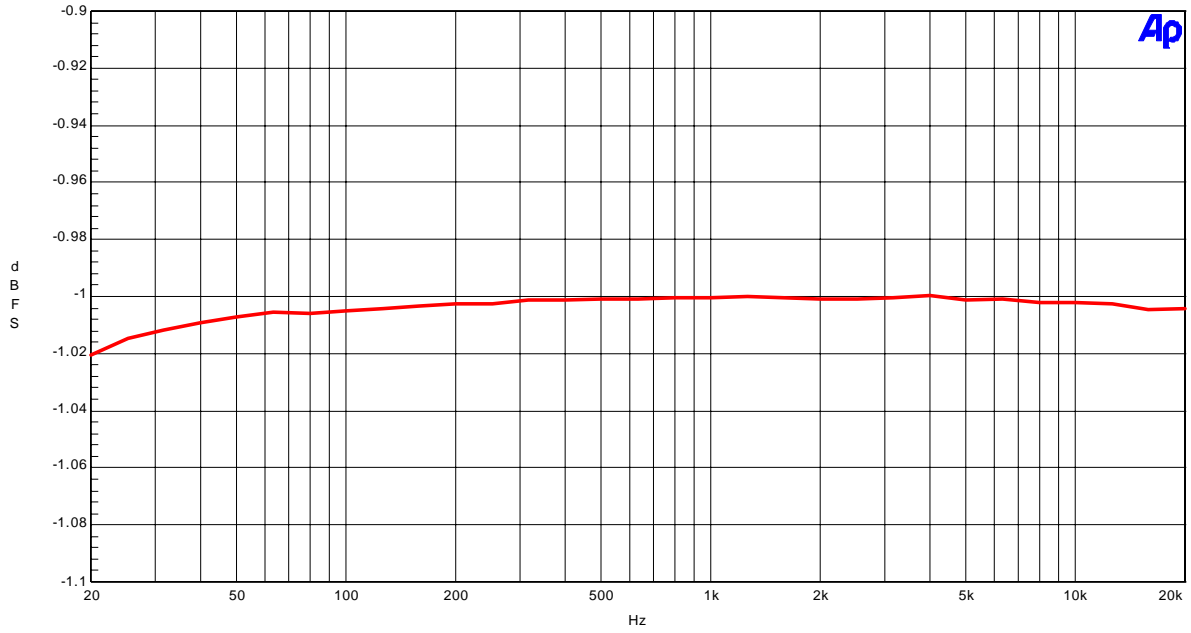

Figure 1-1-7. Frequency Response (-1dB input)
- Figure 1-1-7. Frequency Response (-1dB input)